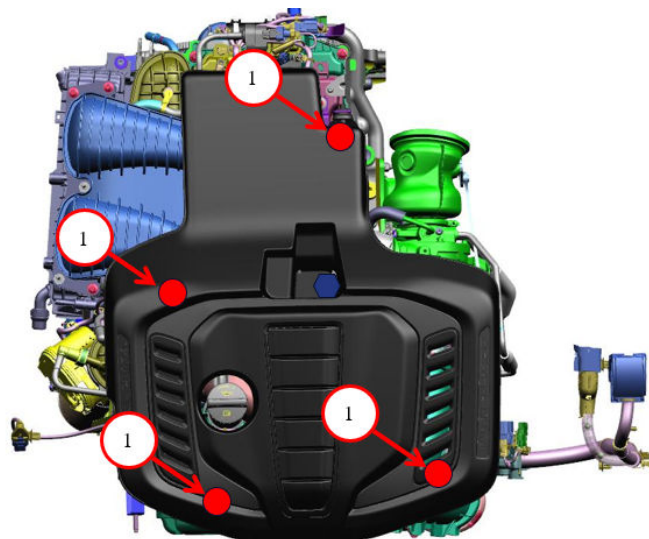

Fig. 1
1. Remove the four push-on engine cover fasteners Fig. 1.
25. Install the four push-on engine cover fasteners Fig. 1.